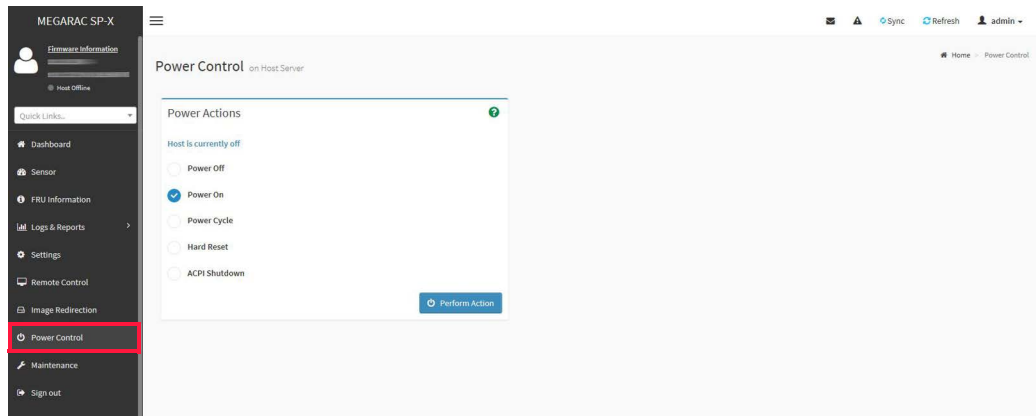

Figure 7.17 Power Control menu
11. **Power Control** enables users to control server power, but providing options to power off, power on, power cycle, hard reset, and ACPI shutdown as shown in Figure 7.17 on page 91.